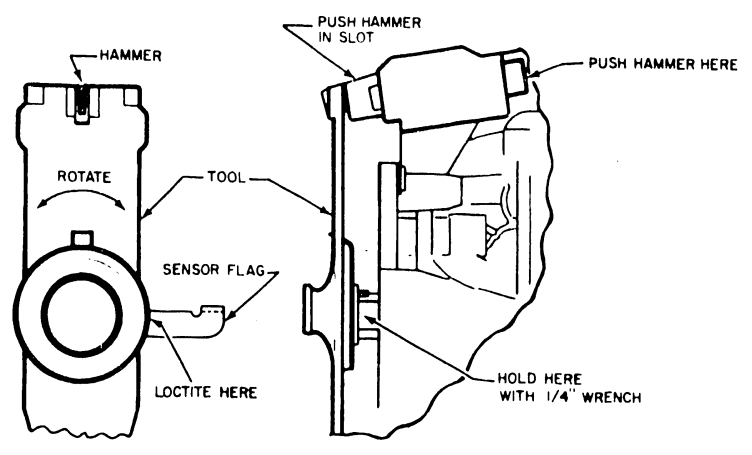

FIGURE 4-16 PRINT WHEEL-TO-HAMMER ALIGNMENT
2. Rotate the tool to bring its hammer slot (B2) in front of the print hammer, and block the carriage home sensor (by inserting a piece of dark paper into its slot) to detent the print wheel motor. See figure 4-16.